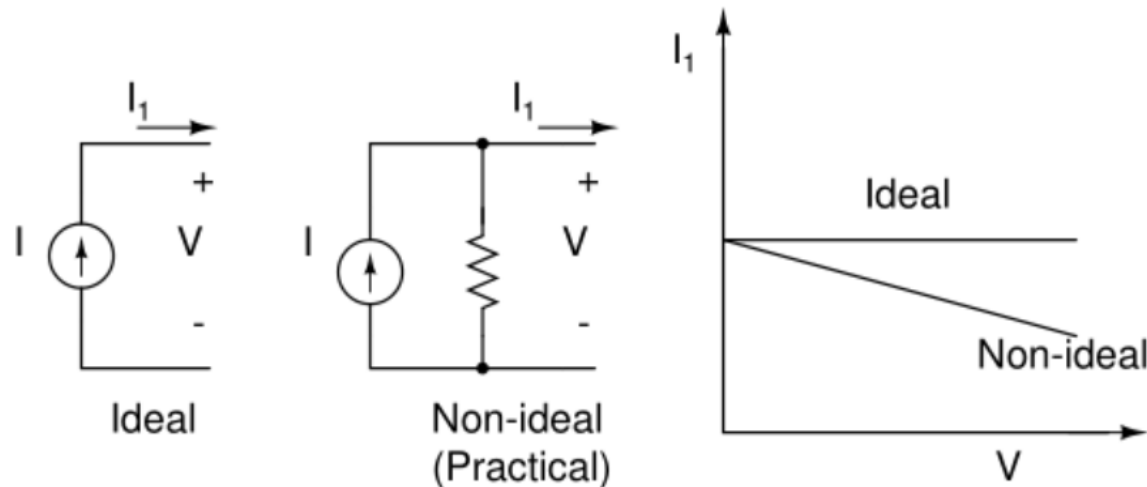

Fig. 4
- In a practical (or non-ideal) current source, as the terminal voltage across the load increases, the current supplied by it progressively decreases (see Fig.4).